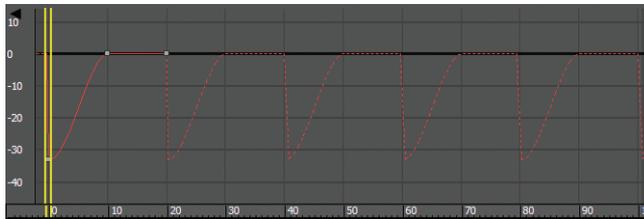

FIGURE 5.19 The X Position track of the ball does not look right.
6. Go to the Curve Editor, scroll down in the Controller window, and select the X Position track for the ball, as shown in Figure 5.19.